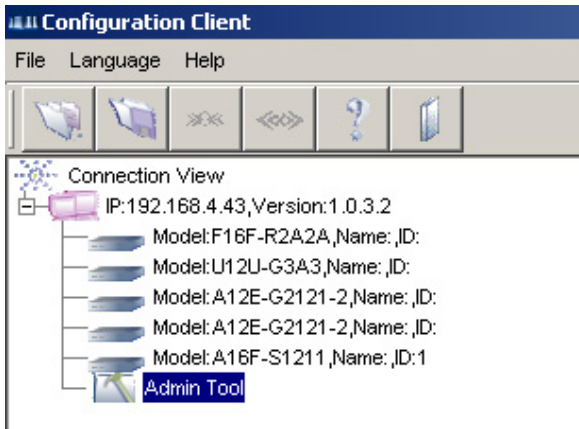

Figure 4-10: Left Column of Configuration Client User Interface
-  **Step 7.** Double-click the **Admin Tool** item on the **Connection View** window in the **Configuration Client** User Interface. (See *Figure 4-10*)